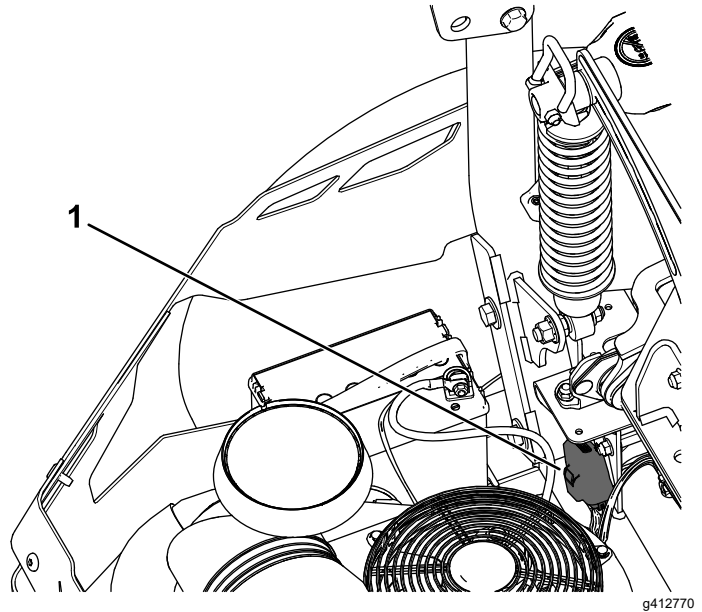

Figure 80
The fuses are located in the rear, near the engine (Figure 80).
2. Install a new fuse (Figure 80).